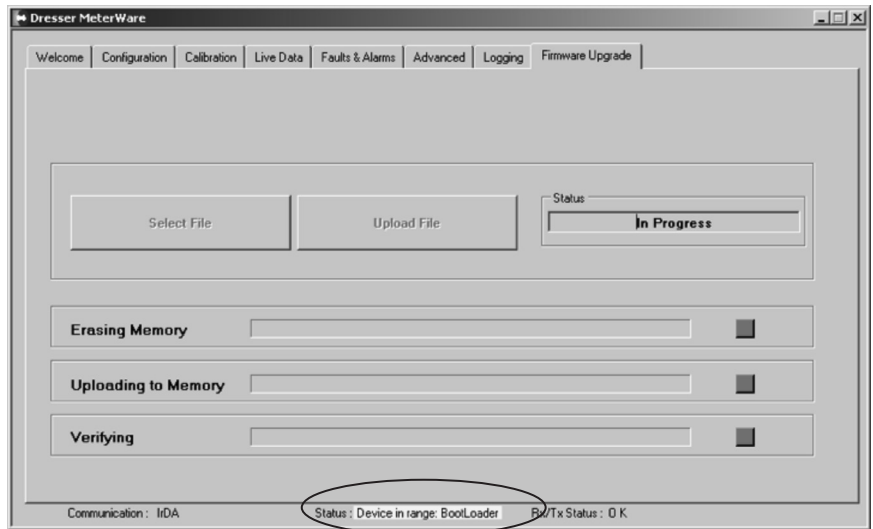

Figure 12.7 - Device in Range: BootLoader
- The software also begins to search for the **BootLoader**, which is necessary to upgrade the firmware. Refer to Figure 12.7.